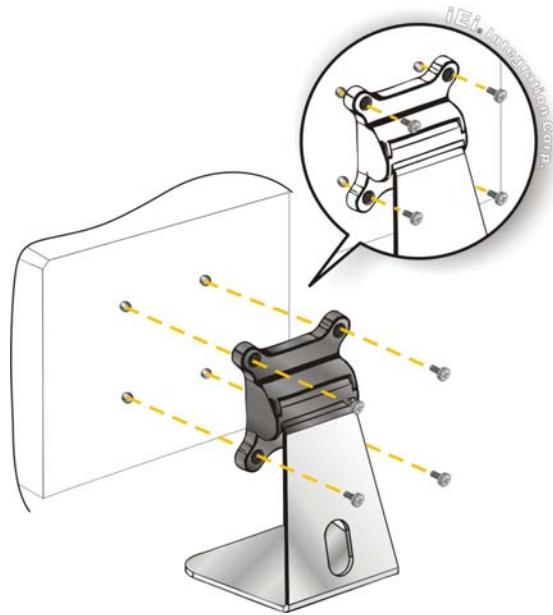

Figure 3-37: Monitor Stand Mounting
- Step 2:** Secure the monitor to the stand with the supplied retention screws (Figure 3-37).